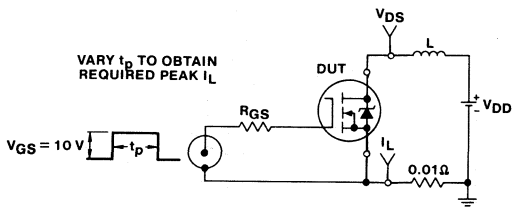

Figure 14 - Unclamped energy test circuit.
*VDD = 10 V, starting Tj = 25°C, L = 820 μHy, Ipeak = 14 A, see figure 14 & 15.